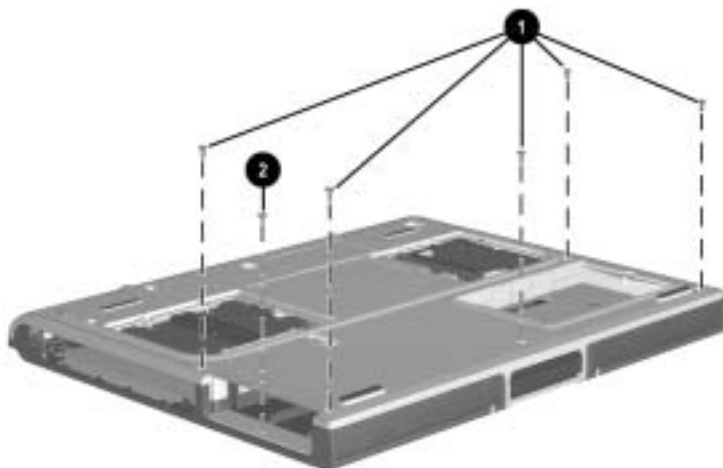

Figure 5-29. Removing the Palm Rest Screws
4. Remove the five TM2.5 × 8.0 screws ❶ that secure the palm rest to the base enclosure (Figure 5-29).
5. Remove the TM2.5 × 5.0 screw ❷ that secures the palm rest to the base enclosure in the battery bay.